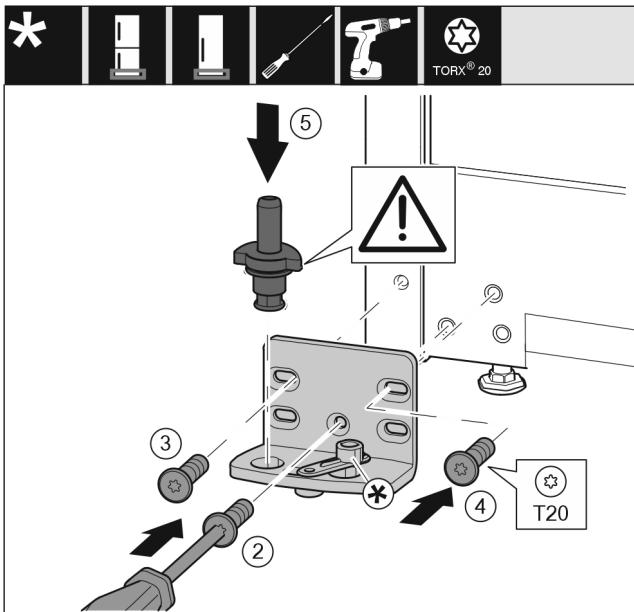

Fig. 34
- ▶ Place the bearing bracket on the other side and screw it in using the T20 screwdriver. Start with screw 2 at the bottom in the middle. Fig. 34 (2)
- ▶ Screw in screws 3 and 4. Fig. 34 (3,4)
- ▶ Insert the bearing pin completely. Make sure that the latching lug is pointing to the rear. Fig. 34 (5)
- ▶ Place the bearing bracket on the other side and screw it in using the T20 screwdriver. Start with screw 2 at the bottom in the middle. (2)
- ▶ Rotate the soft stop connection 180°. Screw it on to the other side of the bearing bracket with a T20 screwdriver. (5)
- ▶ Insert the bearing pin completely. Make sure that the latching lug is pointing to the rear. (6)